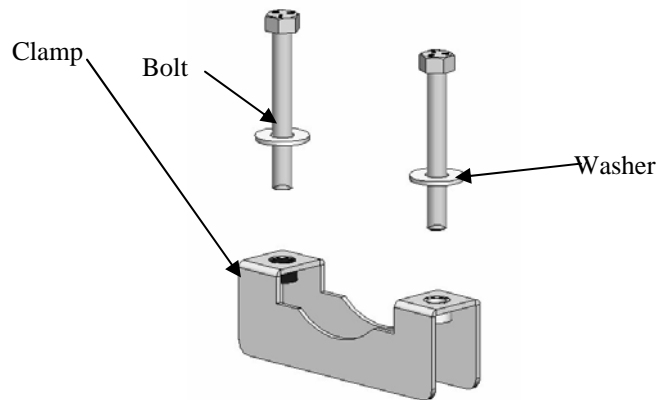
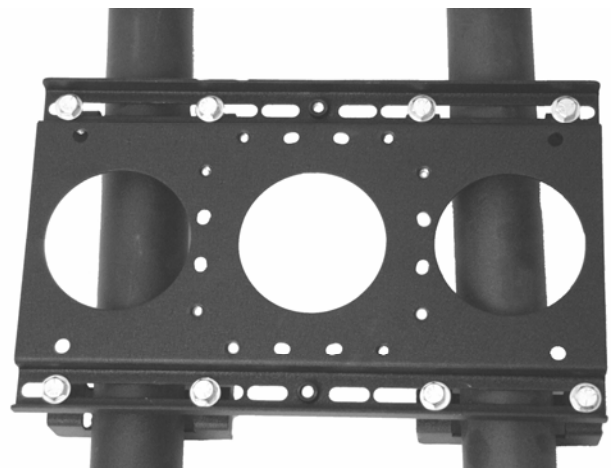

Figure 1. TPK-5
Figure 2. TPK-5 Truss Mount Example
1. Place clamp (see Figure 1) on truss or pole (see Figure 2).